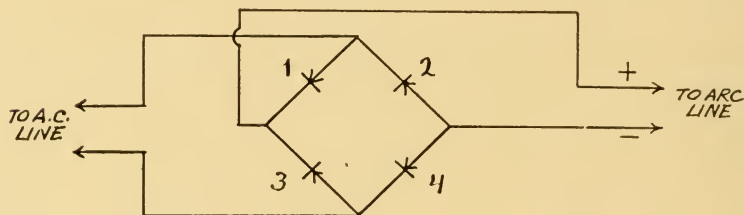

FIGURE 74F
(48) In Fig. 74F we see a circuit representing four such units, 1, 2, 3 and 4, so connected that each will pass current through opposite half cycles. When the half cycle occurs that causes the upper wire of the a. c. line to be positive (we are considering the flow of current from positive to negative—if the direc-